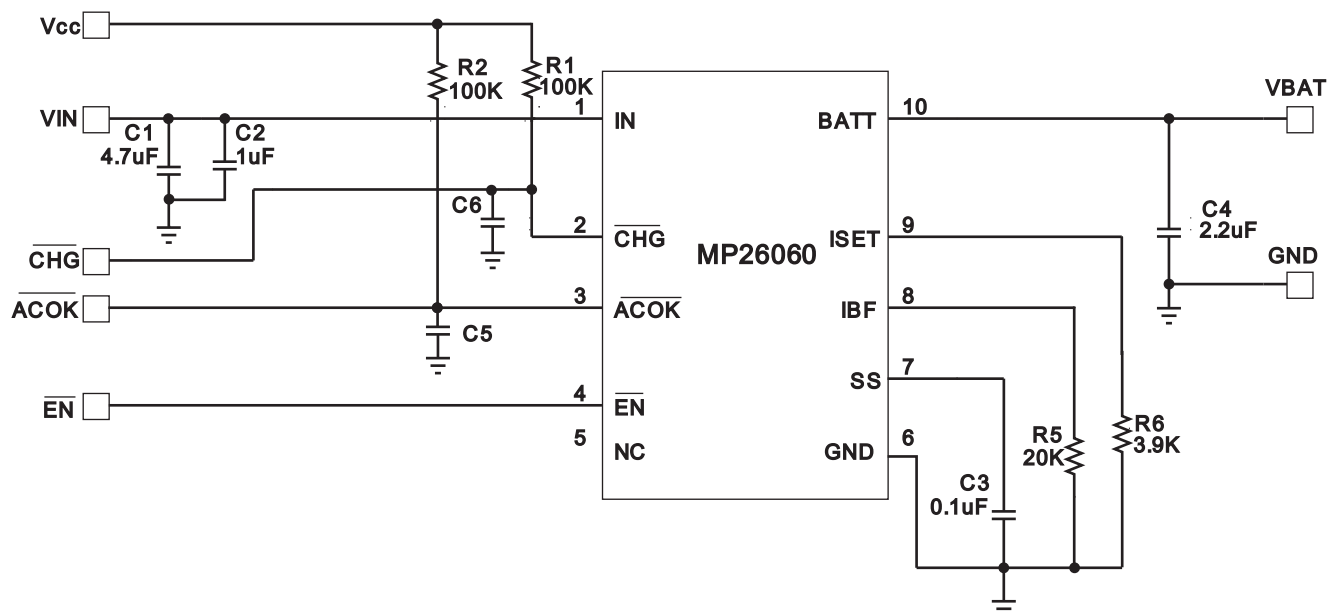

Figure 5—Filtered Charge Status & Input Power Good Interface
When interfacing with the system, glitches may occur on the power supply input (IN) when the AC-power adaptor is plugged in and out. It is desirable to blank the glitches so that the system can properly operate with AC power adaptor. A simple Solution is to add the RC filter (C5 and C6) on the pin \overline{ACOK} / \overline{CHG} as shown in Figure 5. The size of C5 and C6 depends on the width of the glitch and the rise time of the interface.
Power-On Reset (POR) feature can be applied to the MP26060 to ensure that the device starts operating in a known state. The flow chart in Figure 5 describes the conditions and operation